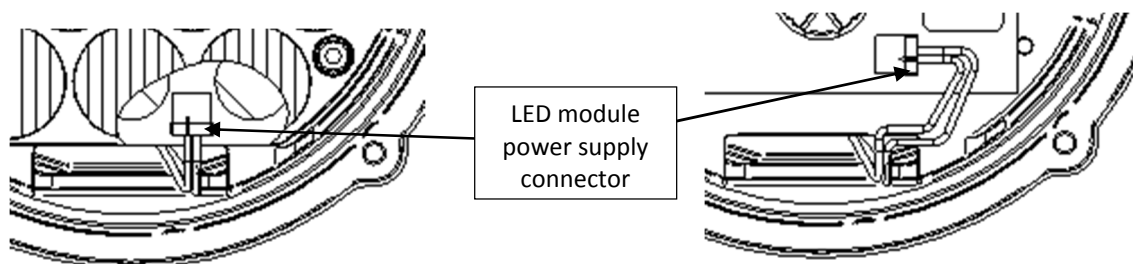

Figure 19: power supply 14 LED module and 7 LED module
- disconnect the LED module power supply wires at the front (fig. 19)